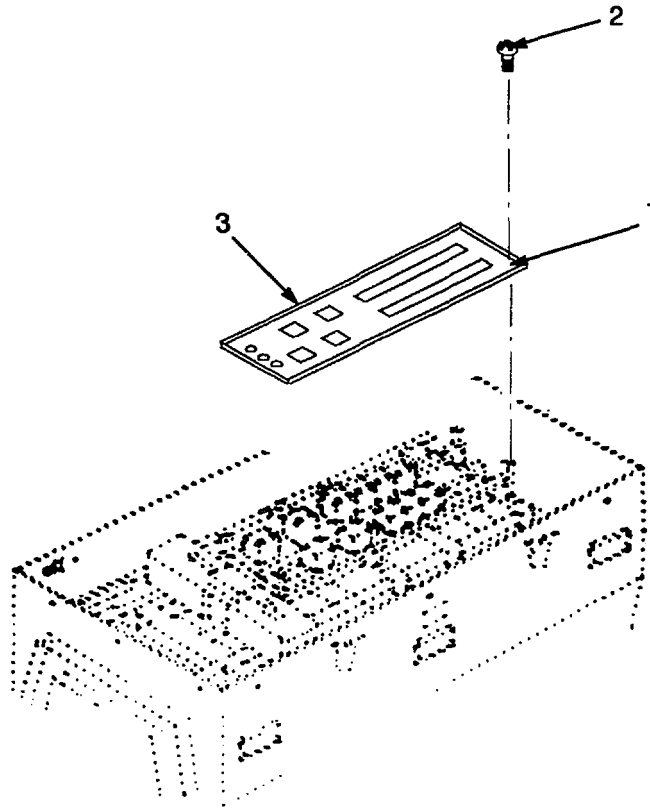

Figure 4-4. Sub Panel.
- a. Remove six screws (1, Figure 4-4) and remove panel (2).
- c. Remove edge trim (3) if damaged.